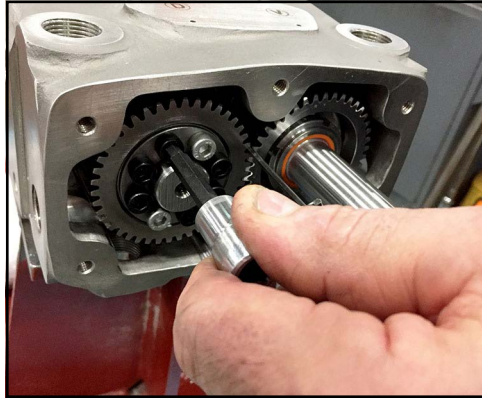

Figure 237 - Hand-tighten locking assembly bolts
- Hand-tighten the locking assembly bolts in an alternating pattern as shown in Figure 237.